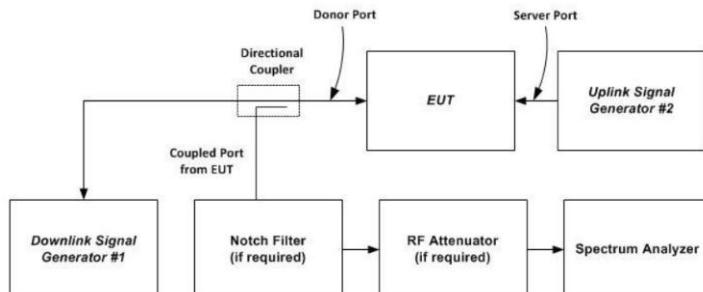

Figure 5—Variable gain instrumentation test setup
- a) Connect the EUT to the test equipment as shown in Figure 5 with the uplink output (donor) port connected to signal generator #1. Affirm that the coupled path of the RF coupler is connected to the spectrum analyzer.
- k) Measure the maximum channel power and compute maximum gain when varying the signal generator #1 output to a level from -90 dBm to -20 dBm, as measured at the input port (i.e., downlink signal level at the booster donor port node of Figure 5), in 1 dB steps inside the RSSI-dependent region, and 10 dB steps outside the RSSI-dependent region. Report the six values closest to the limit, including at least two points from within the RSSI-dependent region of operation. See gain limit in charts in Appendix D for uplink gain requirements. Additionally, document that the EUT provides equivalent uplink and downlink gain, and when operating in shutoff mode that the uplink and downlink gain is within the transmit power off mode gain limits.